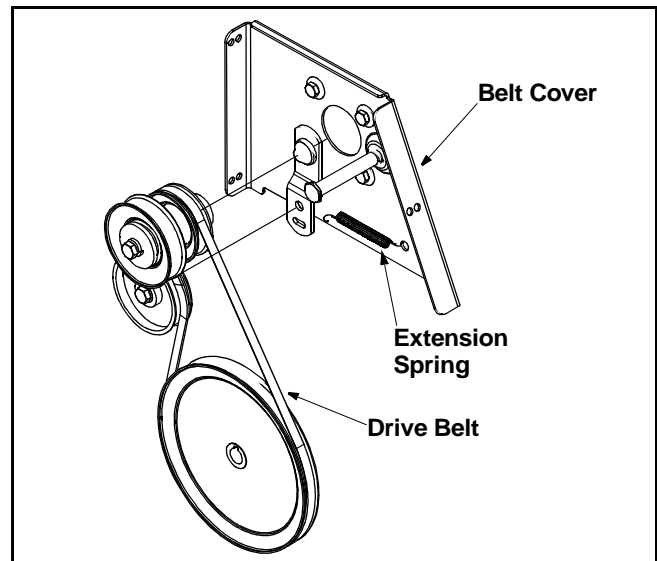

Figure 19
- Unhook the extension spring from the belt cover plate. See Figure 19.
- Remove drive belt from the engine pulley and bottom drive pulley. Refer to Figure 19.